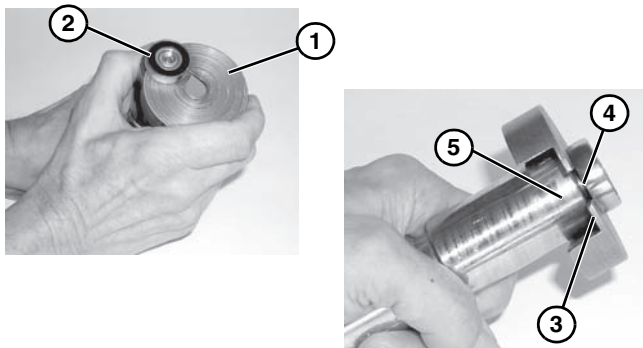

Figure 57
1. Place bearing removal tool (**Figure 57, item 1**) (part # 456063) below bearing (**Figure 57, item 2**) with lip (**Figure 57, item 3**) located in gap (**Figure 57, item 4**) between bearing and spindle hub (**Figure 57, item 5**) as shown.